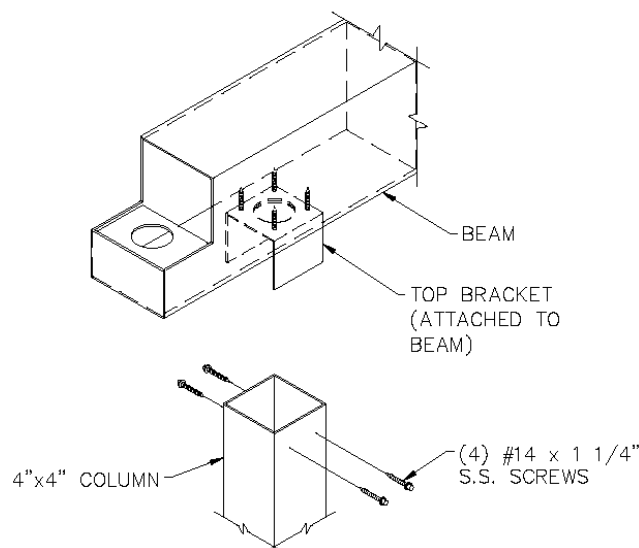

FIGURE 3
- F. Insert the top bracket into the column and fasten to the column with #14 x 1 1/4" SS screws (Figure 3). See the canopy drawings for the number of screws required.